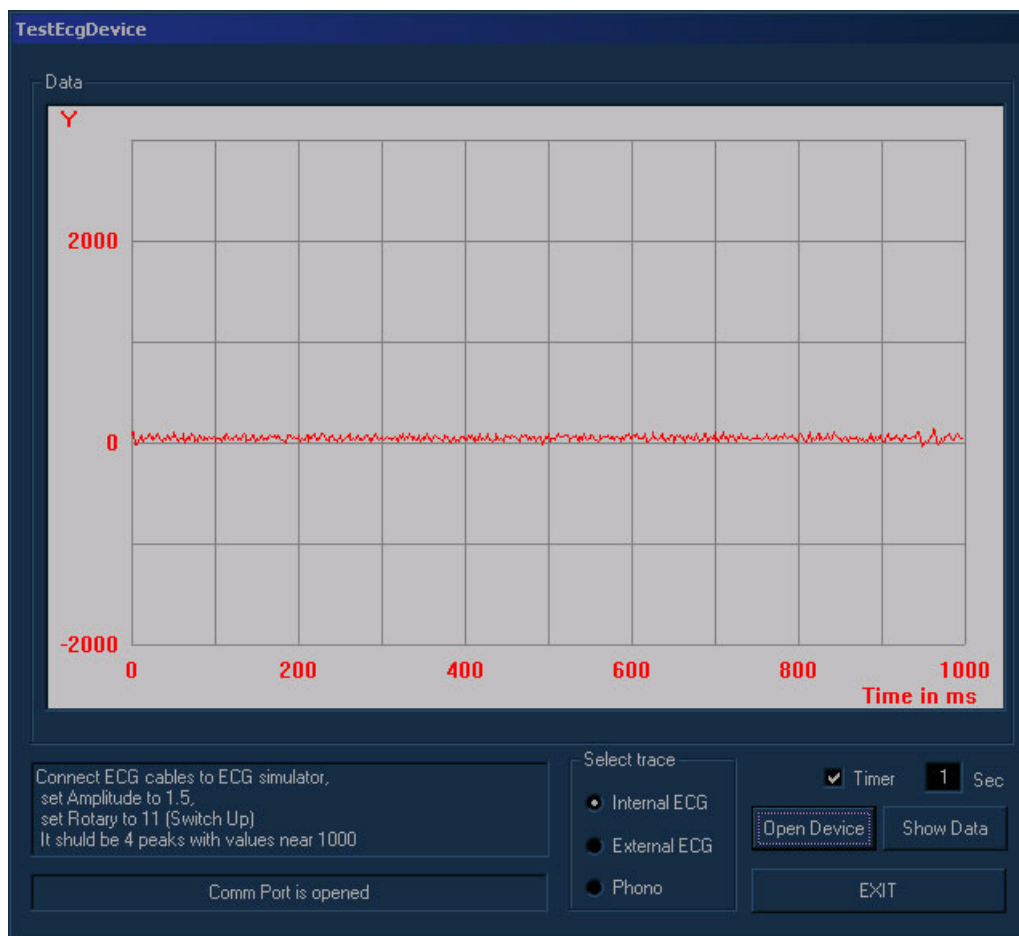

Figure 7-47 Test ECG Device Dialog Box
- 3) Trackball to the **ECG / Phono** button and press **Select**. The *TestECGDevice* dialog box is displayed, as shown in Figure 7-47 on page 7-72.